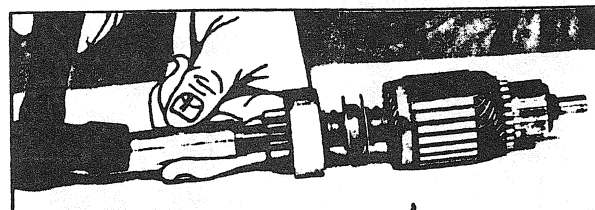

FIGURE 9
- Using a 9/16" socket and hammer, drive back the stop ring. Separate both ends of the retainer ring sufficiently to prevent damage to the groove while removing (Fig. 9).